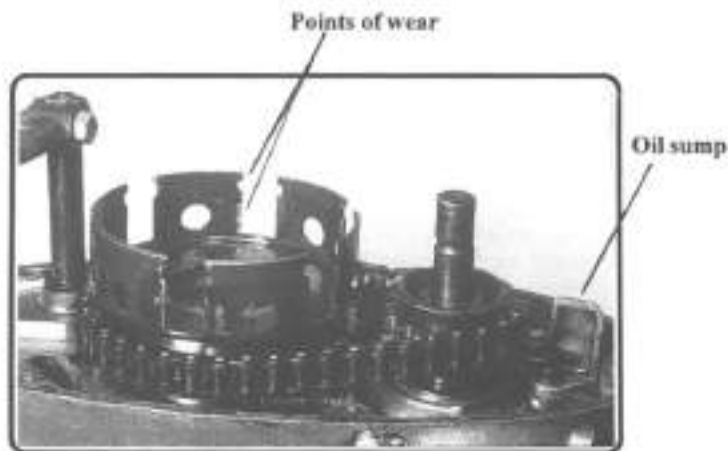

Figure 7. Clutch basket wear points.
- 9.3. Examine the clutch basket, (*clutch body (4-105)*) for wear at the points where the metal lugs on the clutch plates lock into the basket. If deep notches are worn into the basket, they should be welded and filed smooth. Figure 7 shows a clutch basket that has been repaired.